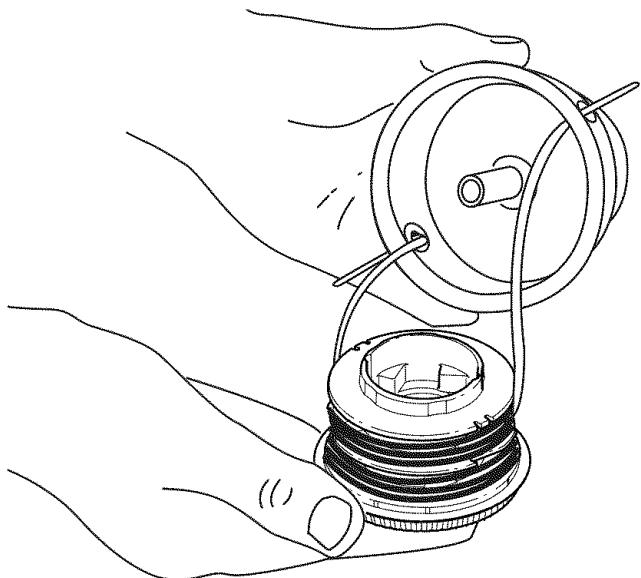

Fig. 24
1. Insert the ends of the two trimming lines into the eyelets in the reel housing (Fig. 24), then grasp the ends and pull firmly to release the line from the holding slots in the reel.